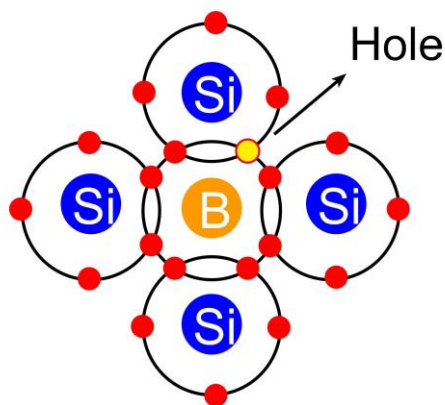

Fig. 3.1-5 Trivalent Impurity Atom in Silicon Crystal
To increase the number of holes in pure Silicon, Aluminum, Boron and Gallium must be added. As illustrated in Fig. 3.1-5, each trivalent (atoms with 3 electrons in the outer orbit) atom Boron (B) forms covalent bonds with four adjacent Silicon atoms.